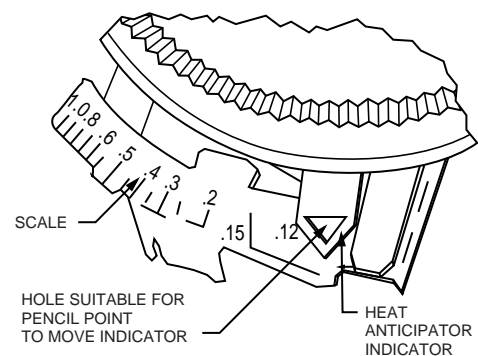

Fig. 15. Adjust heat anticipator to match current rating of primary control.
3. Set the heat anticipator to correspond to the ammeter reading (see Fig. 15).